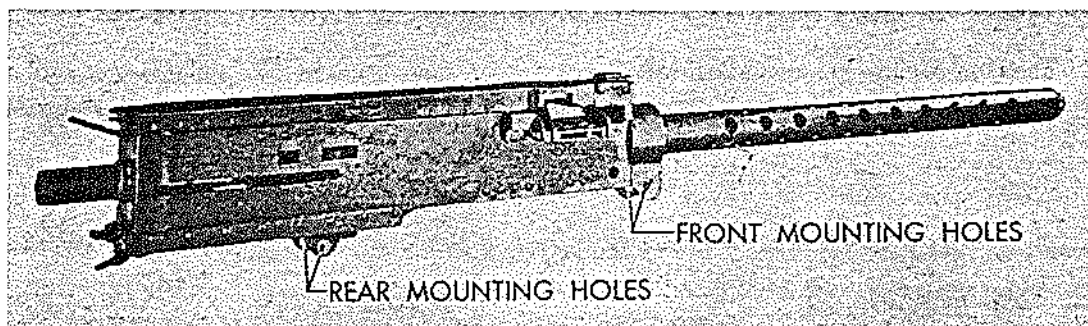

Figure 31A.—Caliber .50 BAM Gun
- (d) Align slides with rear mounting holes of gun shown in Fig. 31A.